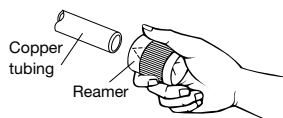
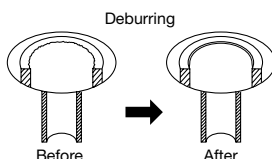

Figure 12
Figure 13
2. Hold each pipe downward when cutting and remove burrs at the end of the copper tube with a tube reamer or file. This process is important and should be done carefully to make a good flare (Figure 12 and Figure 13).
2. Remove burrs at the end of the copper tube with a tube reamer (Figure 12).